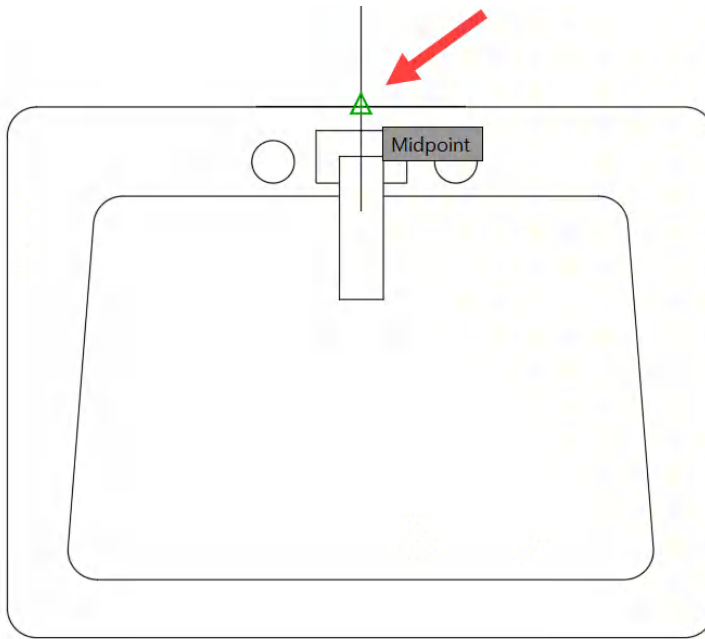

Figure 12.8: The Midpoint object snap for the `Washbasin_TOP` block
3. When using the **Pick point** tool in the **Block Definition** dialog box, you must select the **Midpoint** object snap shown in *Figure 12.8*.